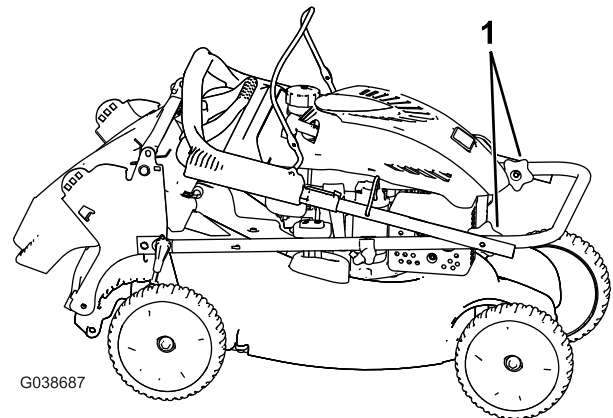

Figure 25
4. Rotate the upper portion of the handle back toward the engine; refer to Figure 25.